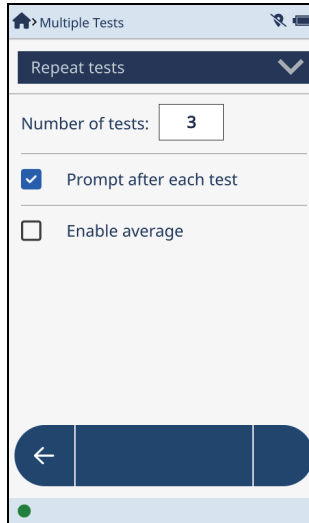

Figure 2-4 Repeat Tests setup
4. Tap the **Number of Tests** box and enter the number of times you want to repeat the test (see Figure 2-4 on page 27).
- ◆ On the **Multiple Tests** screen, select the **Prompt After Each Test** check-box (see Figure 2-4 on page 27).